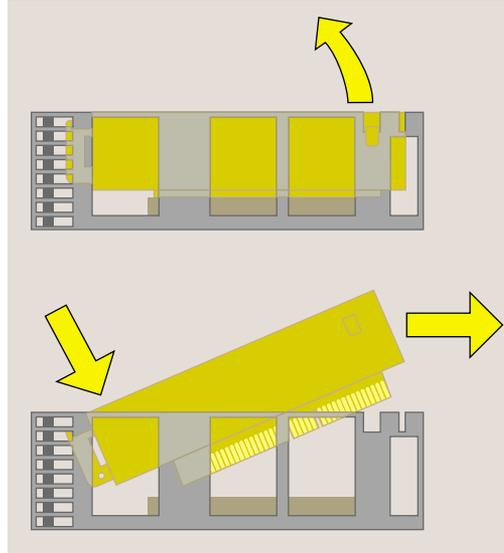

Figure 2-14 Removing the PCI Tray
3. Push down slightly on the rear of the PCI tray and remove it from the system module (Figure 2-14).